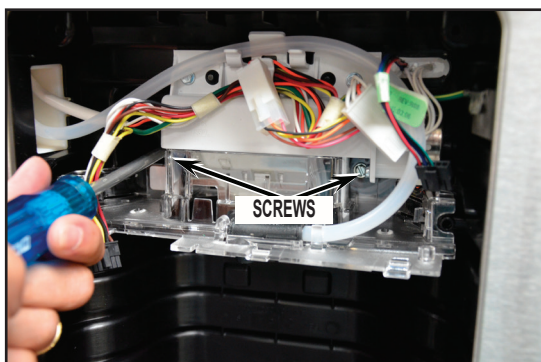

FIGURE 3
3. To remove ice door assembly, first remove (2) screws securing assembly to refrigerator door. See *Figure 3*.